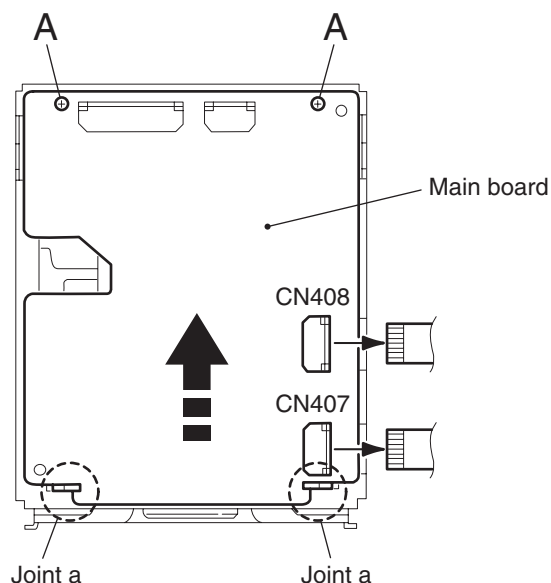

Fig.1
■ Removing the main board (See Fig.1, 2)